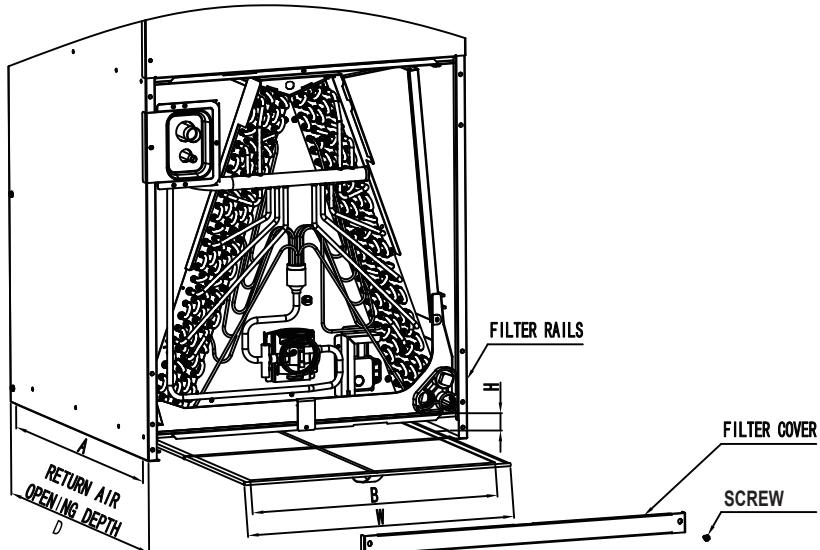

Figure 9.1 Installation of filter
When installing the indoor unit, regardless of the installation method, make sure that the filter is installed as shown in Figure 9.1.
- Manually remove the screw and remove the filter cover, as shown in Figure 9.1.